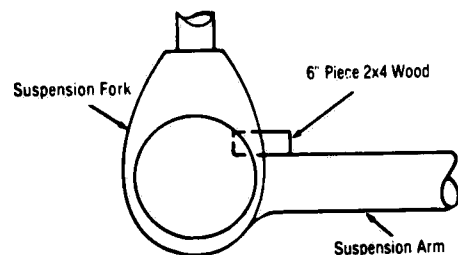

Figure 4-7. PREVENTING SUSPENSION ARM FROM SPRINGING BACK.
1. Lower lighthead to a comfortable working height, then insert a 6" length of 2"x4" wood between the suspension arm and suspension fork to prevent suspension arm from springing back when lighthead is removed. (See Figure 4-7)
2. Insert a 6 inch piece of 2" x 4" wood between the suspension arm and suspension fork to prevent suspension arm from springing back when yoke is removed. See Figure 4-7.